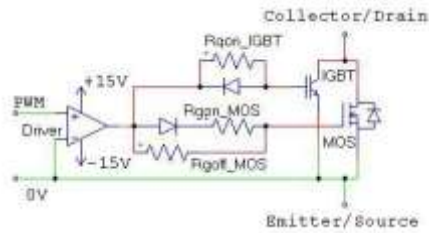

Figure 2
2. Driver with separate gate control for MOSFET. This will allow the designer to control the operation between the two switches. Figure 2 is an example of this type of circuit.